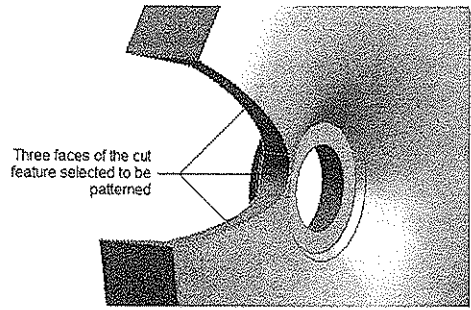

Figure 5-19 Faces of the cut feature selected to be patterned
3. Press the CTRL key and select the three faces of the cut feature to be patterned, refer to Figure 5-19.